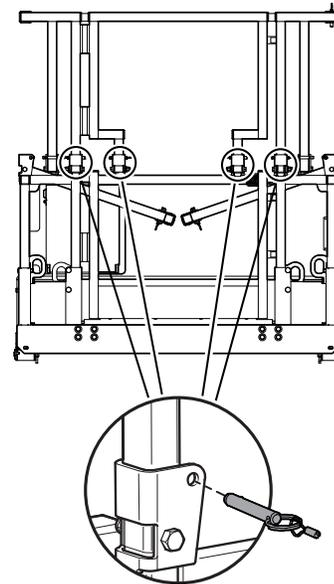

**Figure 19** Rear gate folded
26. Hold the rear mid-rail with one hand, and then fold the rear gate with the other hand. Refer to Figure 19 for the hand positions.
30. Hold the mid-rail of the extension guardrail with one hand, and then fold the extension guardrail with the other hand. Refer to Figure 19 for the hand positions.